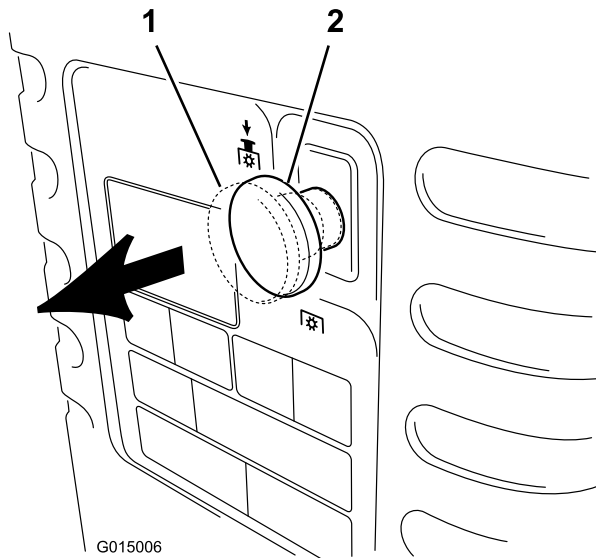

Figure 8
2. Pull the blade control (PTO) knob to the On position (Figure 8).
2. Push the blade control (PTO) to off (Figure 8).